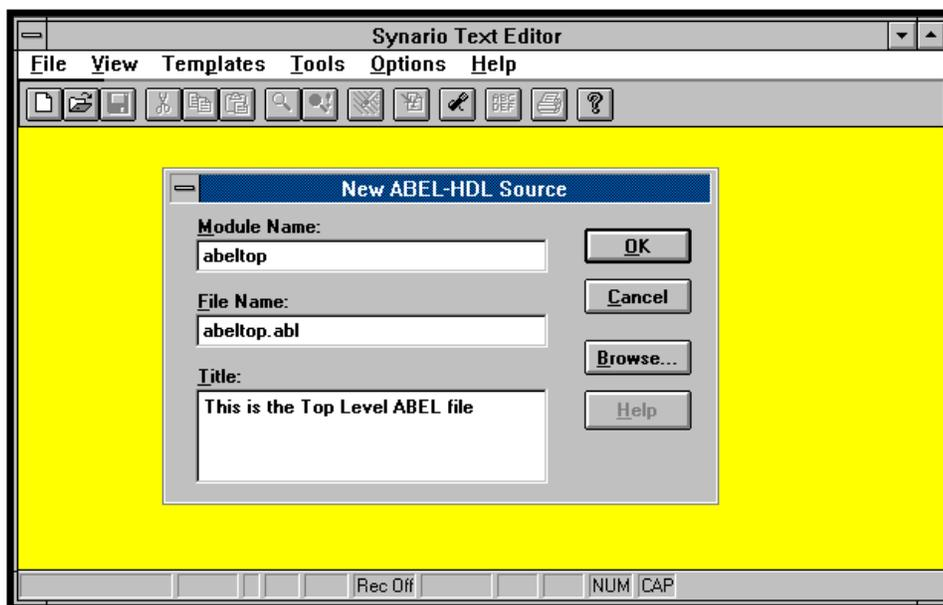

Figure 1-26. New ABEL-HDL Source Dialog Box
49. To create the source, highlight the abeltop source, then select **Source** ⇒ **New**. In the New Source dialog box, choose ABEL-HDL Module and click **OK**. A Synario Text Editor appears with the New ABEL-HDL Source dialog box (Figure 1-26).